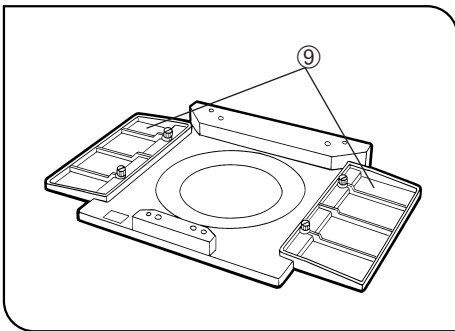

Fig. 71
Ⓞ When the mechanical stage is not used, stage extender plates ⑨ can be attached at both sides of the plain stage. (Fig. 71)